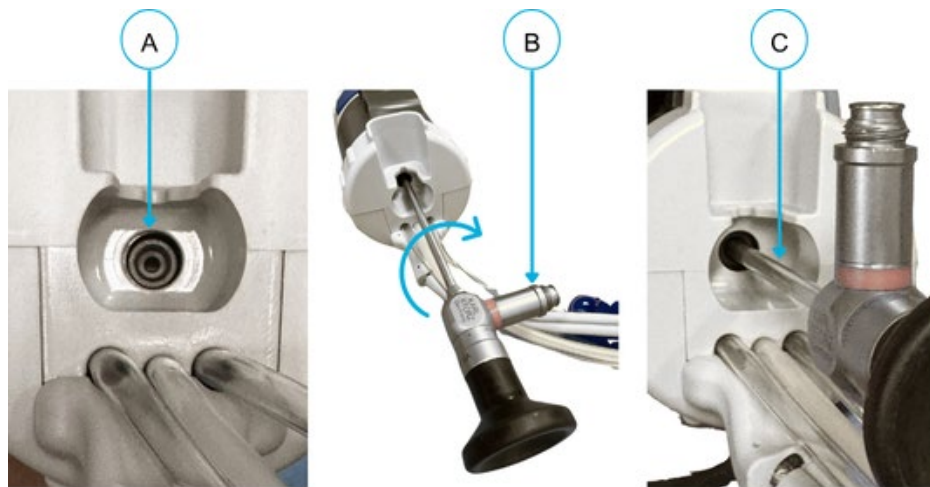

Figure 11-14: Insert the Rigid Cystoscope Lens
3. Insert the lens (C) into the lens port (A) (Figure 11-14).
■ **NOTE:** The lens should be initially rotated 90 degrees (light post at 3 or 9 o'clock) and inserted straight into the lens port (not at an angle) to avoid damage to the lens or Delivery Device (B).